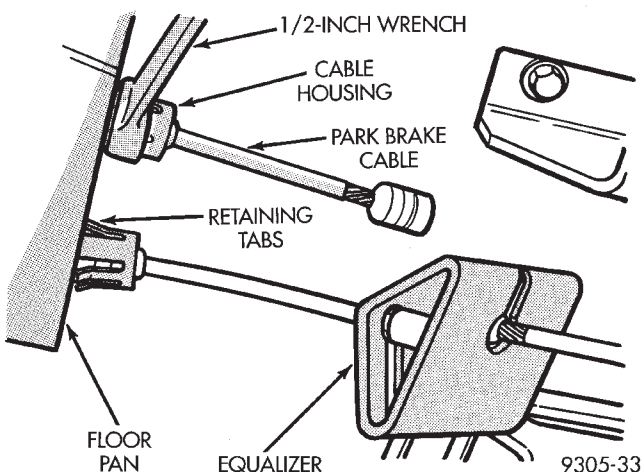

Fig. 7 Park Brake Cable Removal From Floor Pan
(16) Remove rear park brake cable from vehicle floor pan using the following procedure. Disconnect rear park brake cable requiring replacement from equalizer (Fig. 7). Slip the box end of a 1/2 inch over end of park brake cable (Fig. 7). This will compress retaining tabs on end of park brake cable housing. Using a screw driver, press on end of park brake cable housing to remove cable from floor pan of vehicle.